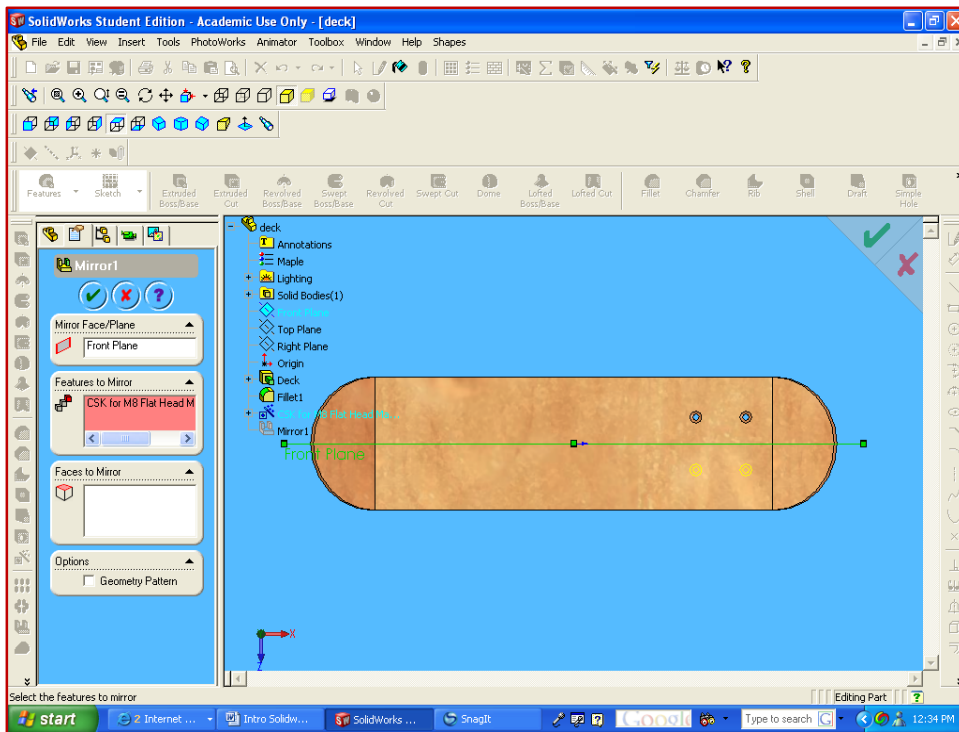

Figure 3.12 – Duplicating Two Holes Across the Front plane
- ✓ Click the **Mirror** command in the **Features** toolbar. The dialog box is shown in Figure 3.12. The features we want to duplicate are the **CSK** (countersunk) holes for flat head machine screws. It should be visible in the **Features to Mirror** dialog box. If **CSK** is in the **Features to Mirror** dialog box, skip the next paragraph.